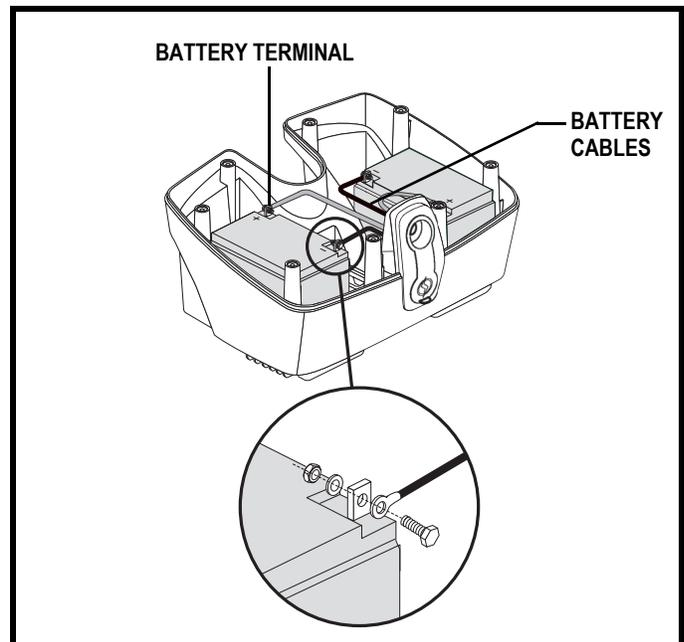

Figure 14. Battery Replacement
3. Remove the eight (8) screws from the perimeter of the battery pack.
5. Disconnect the black (-) and red (+) battery cables from the battery terminals of each battery. **See figure 14.**